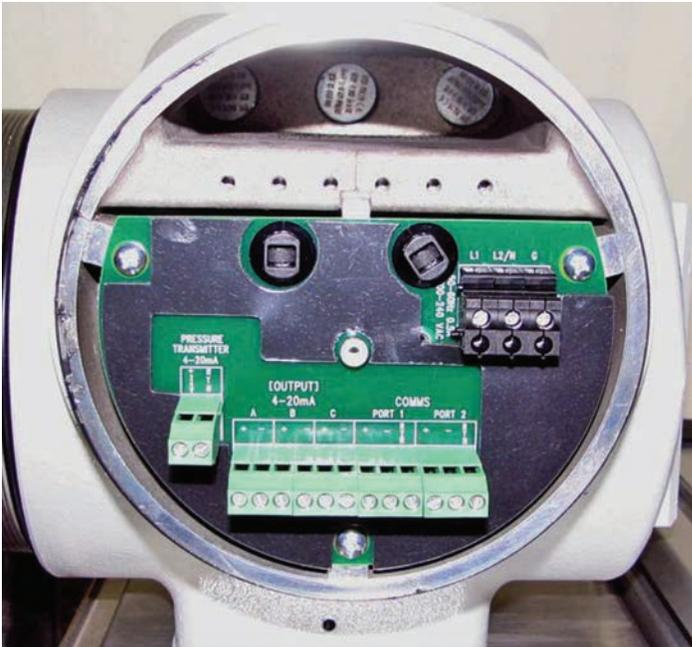

Figure 25: Wiring terminal blocks
2. Select one conduit for inlet power to the **Aurora H2O** based on your configuration. The **Aurora H2O** comes with a universal power supply, or optionally, as a 24VDC powered unit. Remove the wiring cover to view the wiring terminal block (see *Figure 25* below).